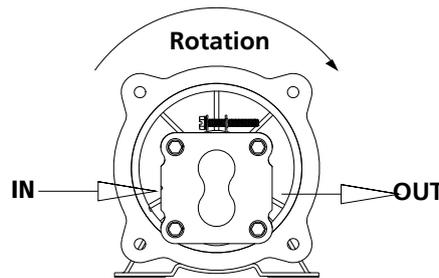

Figure 4- Rotation
**NOTE:** The small end of coupling goes into pump. **Rotation:** When looking at the motor shaft end, proper motor pump rotation is clockwise, and flow from left to right. Reverse the flow by rotating the pump 180°, see Figure 4.